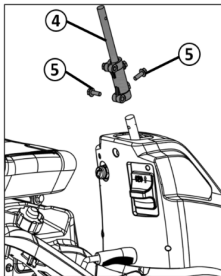
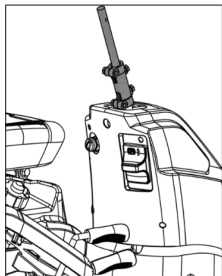

Figure 6
Figure 7
- 1. Install the direction rod assembly to the designated position of the ride on mower according to the method shown in Figure 6, and the installation status is shown in Figure 7.